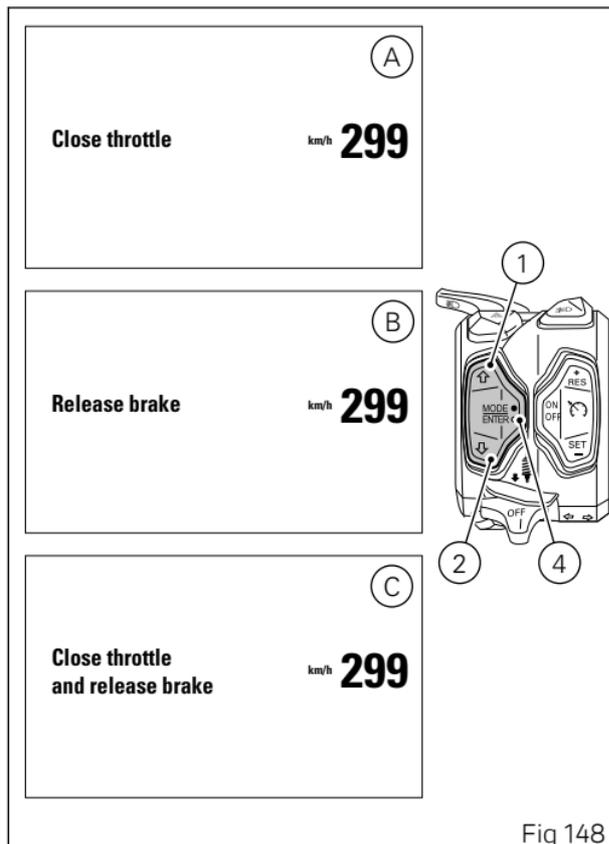

Fig 148
- if throttle is "open" the instrument panel activates the "CLOSE THROTTLE" (A, Fig 148) indication; only when throttle is
- if throttle is "closed" but brakes are operated, the instrument panel activates the "RELEASE BRAKES" (B, Fig 148) indication and only when brakes are released the new selected riding mode is confirmed and memorised, and the instrument panel goes back to standard page displaying;
- if throttle is "open" or if brakes are operated and vehicle is moving, the instrument panel shows "CLOSE THROTTLE AND RELEASE BRAKES" (C, Fig 148) and, only after all conditions are met (closed throttle and brakes released or vehicle stopped) the instrument panel confirms and memorises the new selected riding mode and goes back to "standard page" displaying.